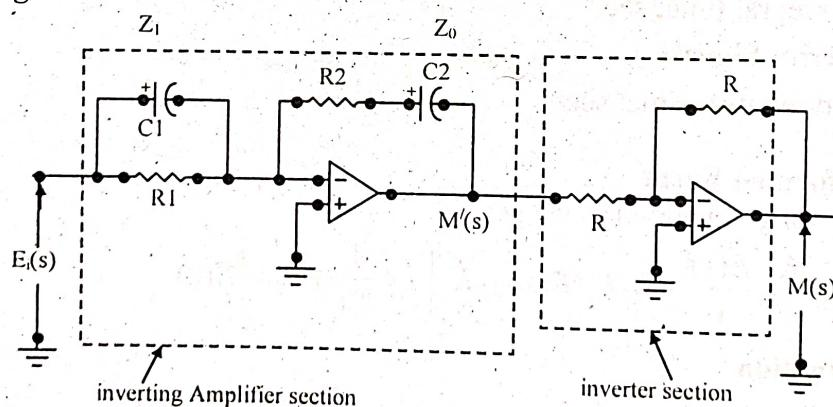

Fig: 1 Electronic circuit of a PID controller
Transfer function for the amplifier section (fig.1) is given by
T.F. for inverter section (Fig. 1) is given by